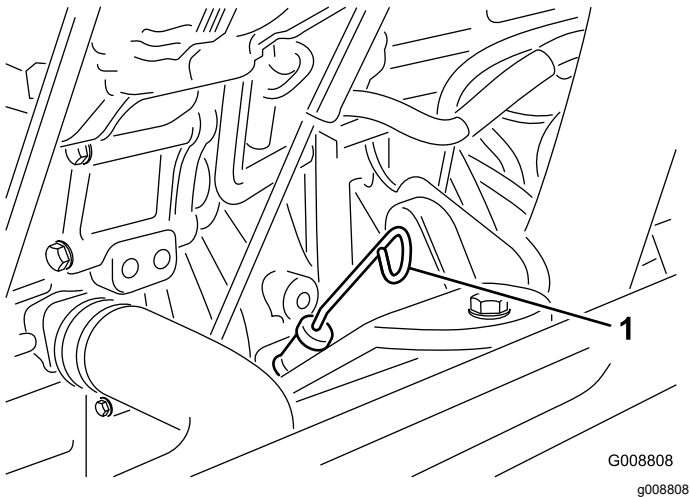

**Figure 34**
2. Unlock the hood latches and open the hood (Figure 34).